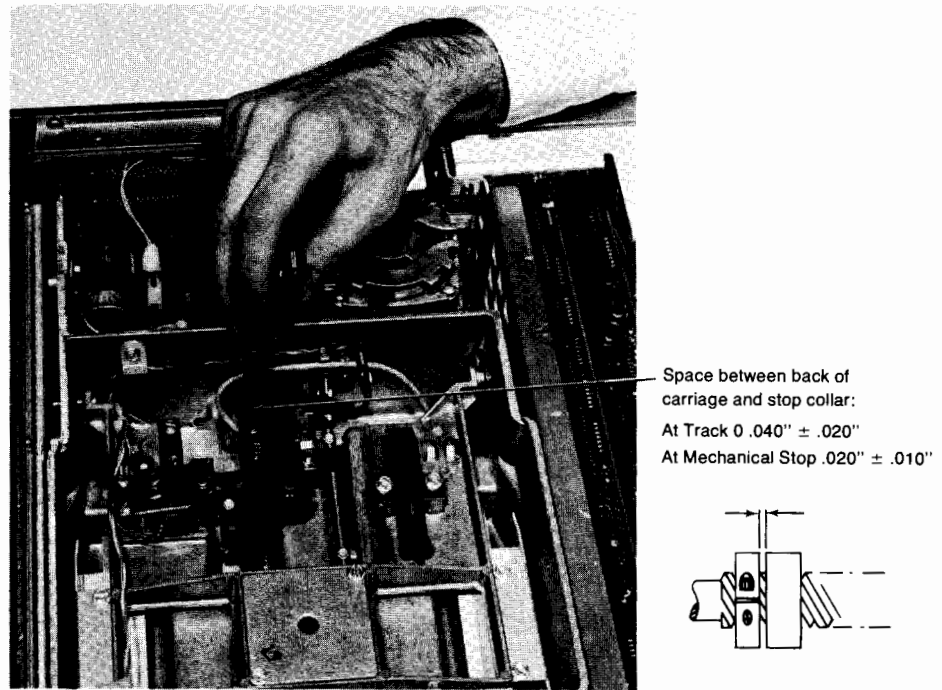

Figure 3-20. Track 0 Stop Adjustment
2. The distance between the back of the carriage and the stop collar should be $.040'' \pm .020''$ (see Figure 3-20). Loosen the collar set screw and slide the collar until the distance is met. Tighten the set screw.